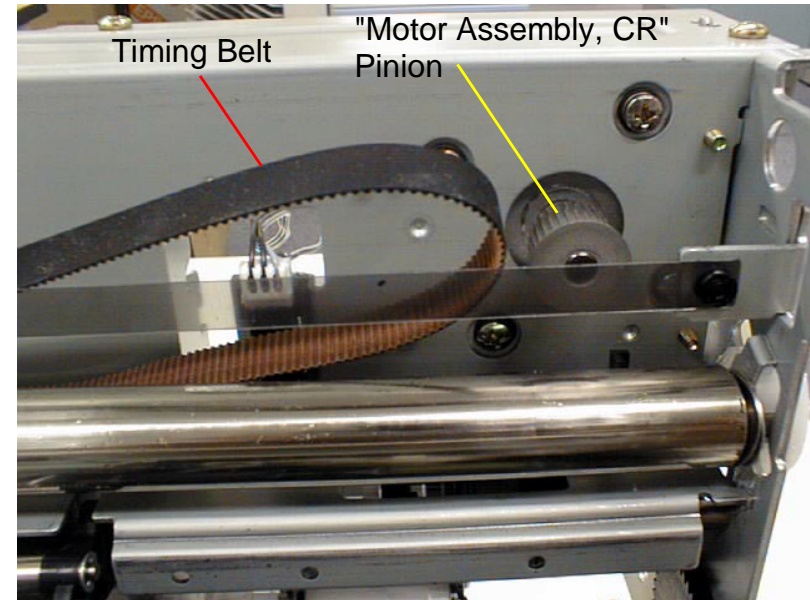

Figure 4-28. Timing Belt Removal
2. Remove the timing belt hanging on the pinion of "Motor Assembly, CR". (Refer to Figure4-28)